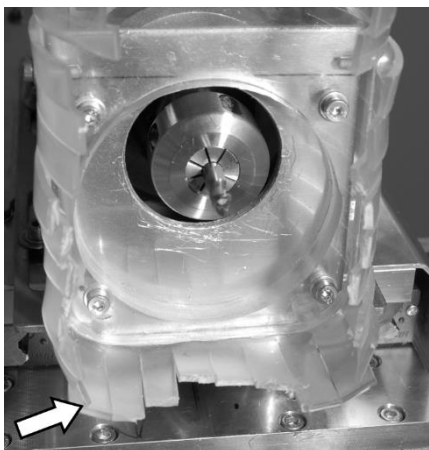

Fig. 34: protective cover
2. Check the protective cover (optional vacuum system) (Fig. 34/arrow) for damage.